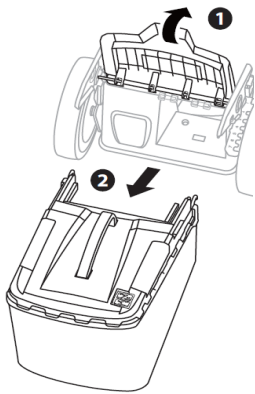

Fig. 8A
1. Raise the rear cover and remove the grass catcher. (Fig.8A)